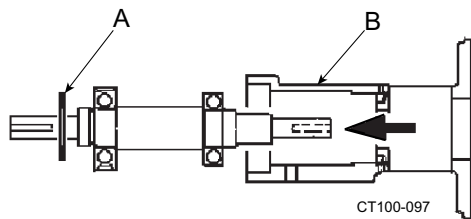

Figure 46 - Bearing Shaft Assembly Removal
1. Push the shaft and bearing assembly out of the housing from the impeller end. (Figure 46).
2. Remove the retaining ring and press the bearings off the shaft (Figure 46, items A and B).